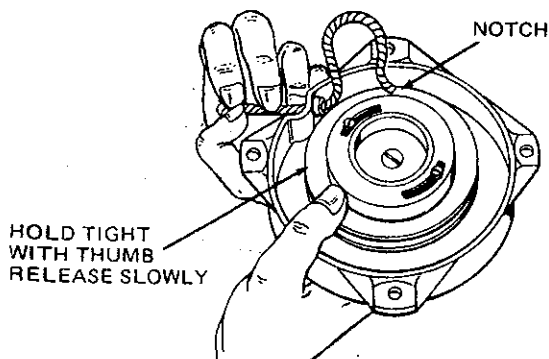

Figure 2
before disassembly. Hold pulley (8) with thumb firmly, remove handle (10), then release pulley slowly until spring is unwound. (See Figure 2.) Remove and install spring and keeper (9) as an assembly. Grease spring lightly.